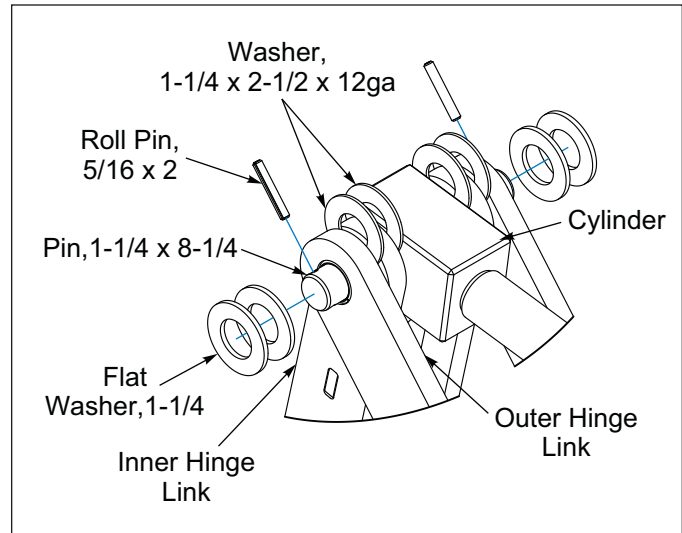

Figure 2-43: Inner and Outer Hinge Link
5. Swing the Inner and Outer Hinge Links together along with the Hydraulic Cylinder Rod End Clevis. Place a 1-1/4 x 2-1/2 x 12ga Thrust Washer between each component and insert 1-1/4 x 8-1/4 Pin through them. **See Figure 2-43.** Add 1-1/4 Flat Washers on each end of the Pin. Secure with 5/16 x 2 Roll Pin.